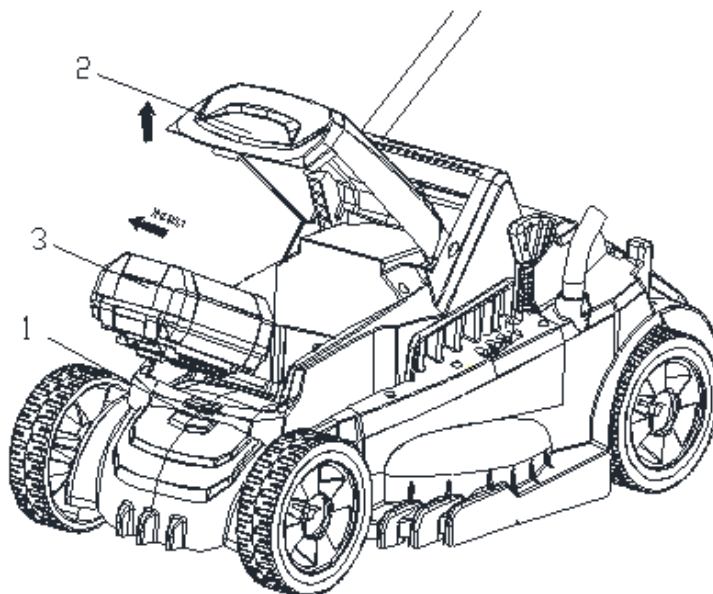

Fig. 2
1. Press the battery door button (**Fig.2 No.1**),
2. Lift and hold up the battery door (**Fig.2 No.2**),
3. Place the battery (**Fig.2 No.3**) in the mower. Align guided ribs on battery with grooves in the mower's battery port.